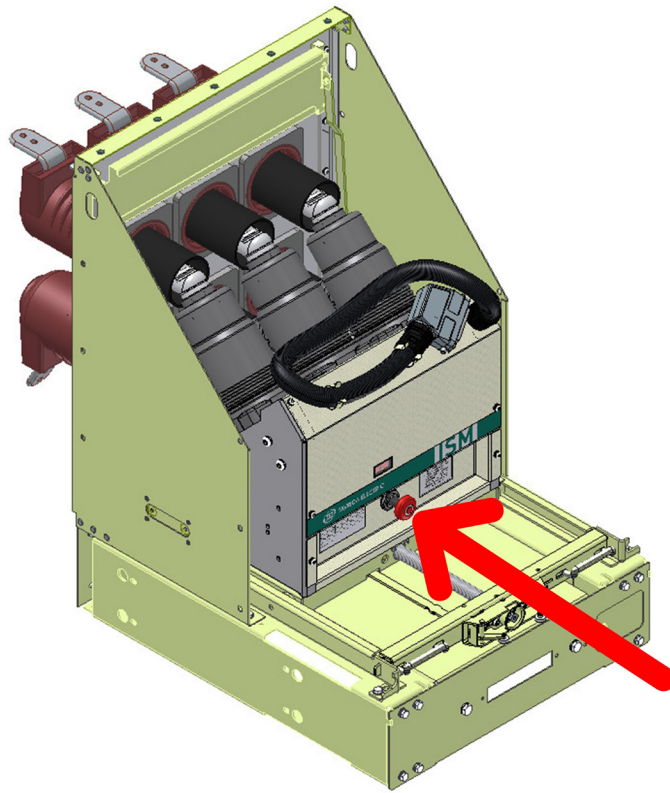

Figure 57
9) To apply the test voltage, single-core short cables should be used. The application of high-voltage coaxial cables is strictly prohibited. To coordinate the surge impedance between the test set and ISM extra resistor (as shown in Figure 57) shall be used.